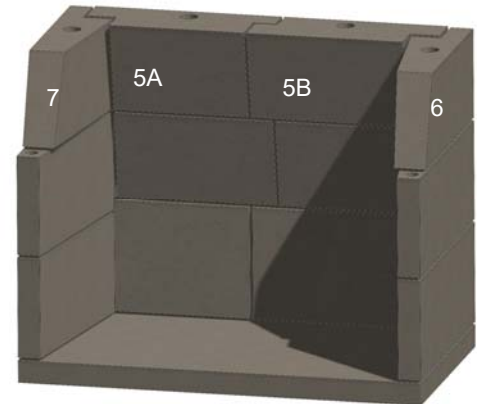

Figure 7. Upper Back Plates & Sidewalls
E. Install the slanted sidewalls (6 and 7), and the upper back plates (5A, 5B). Check the sides and the top with a level. See Figure 7.